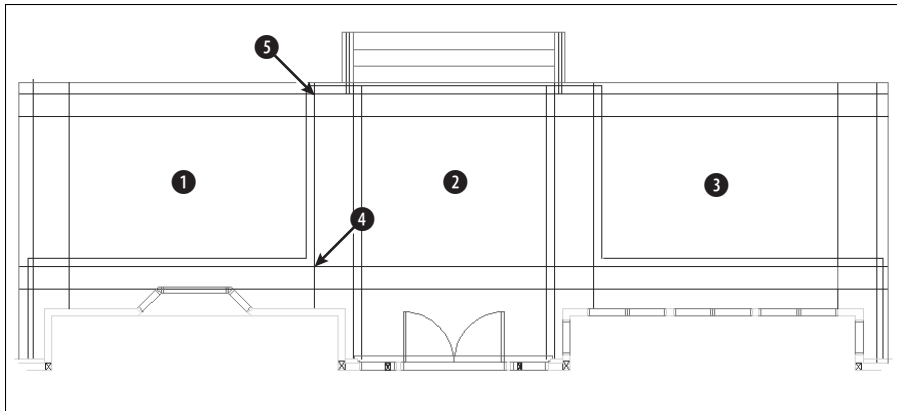
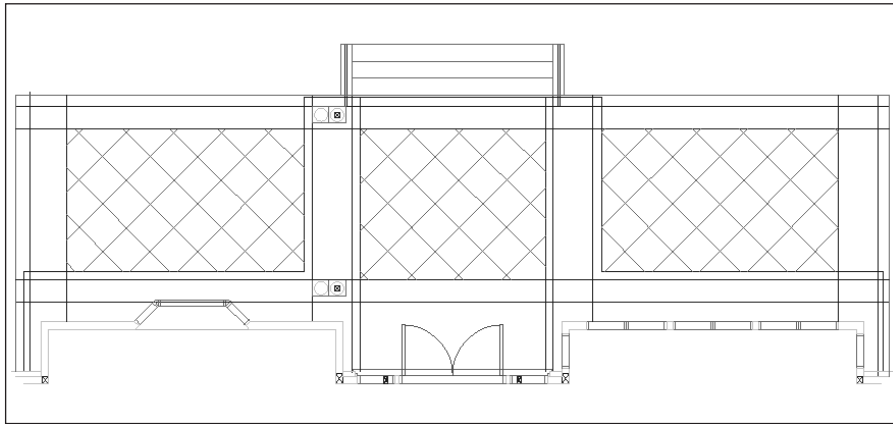

Figure 26-10: This back porch needs some columns, which are blocks, as well as some hatching.
Figure 26-11: The drawing now has hatches and blocks inserted from the tool palette.
2. Save the file as `ab26-02.dwg` in your AutoCAD Bible folder. This drawing needs some blocks and a hatch pattern inserted. It is shown in Figure 26-10.
11. Drag the **User Defined** hatch icon to ❶ in Figure 26-10. Then do the same for ❷ and ❸. These areas are hatched, as shown in Figure 26-11.
13. Click the **post** icon. At the **Specify insertion point: prompt**, pick ❹ in Figure 26-10. Click the **post-structural** icon. At the prompt, pick the upper-right corner of the post block, as shown in Figure 26-11.
14. Click the **post** icon. At the prompt, pick ❺ in Figure 26-10. Use the same technique to place the **post-structural** icon at the upper-right corner of the post block. (The posts would then need to be spaced and mirrored to the other side of the porch, but these tasks are not necessary for this exercise.)
17. Save your drawing. It should look like Figure 26-11.